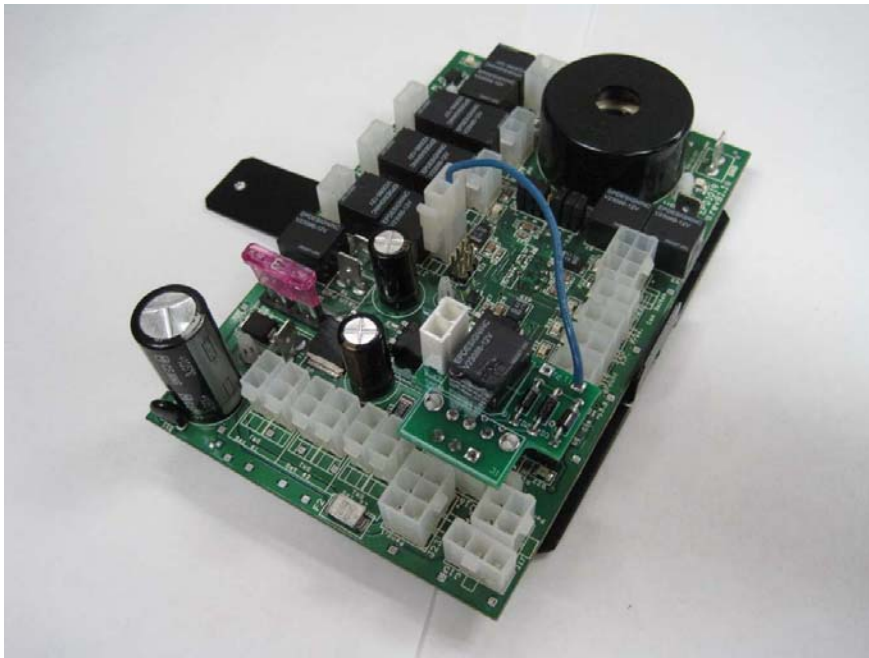

Figure 5. PCB Assembly Kit
1. Refer to **Figure 5**. Install new PCB Assembly Kit (P/N 45618) onto pump chassis.